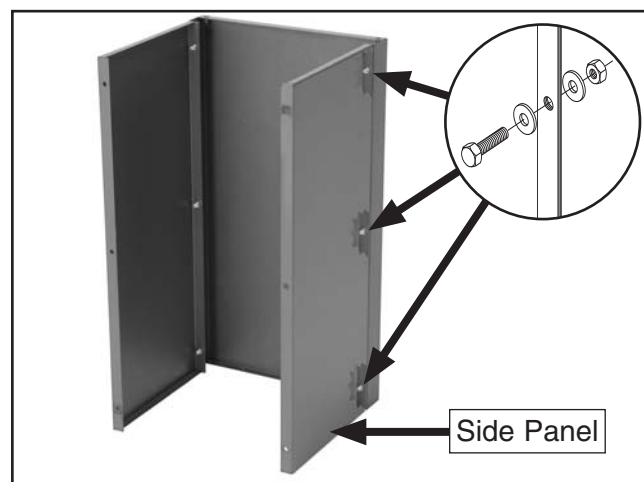

Figure 12. Second side panel attached.
2. Attach the remaining side panel in the same manner as **Step 1**, as shown in **Figure 12**.